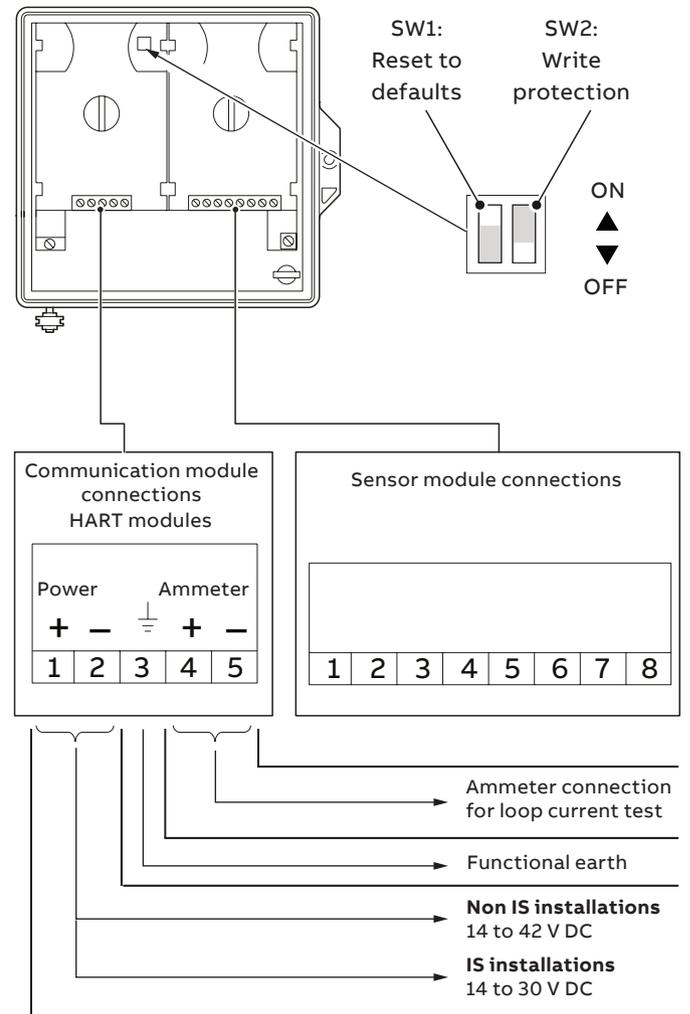

Figure 1 HART communication module connection overview
- The device has 2 internal switches, situated on the top righthand side of the HART Communication Module – see Figure 1.